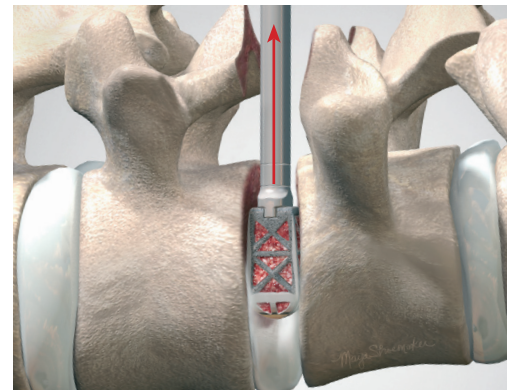

Figure 16
- ▲ If implant removal is required, the intervertebral space should be distracted in the same manner as for implant placement. Once distracted, the implant may be removed by using the insertion tool (Fig. 16).